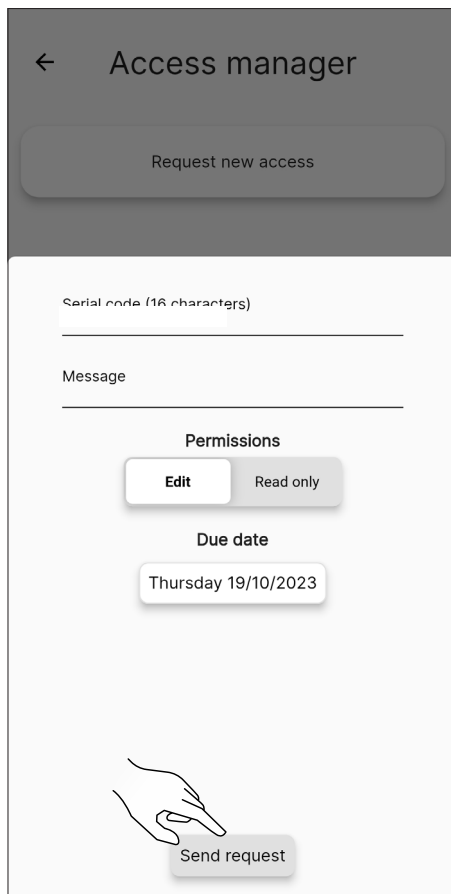

Fig. 8.32
- Confirm with “Send request” (Fig. 8.32)